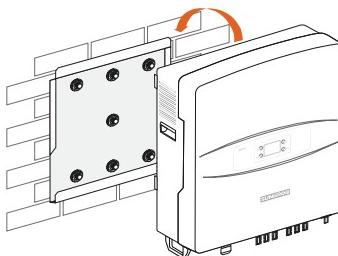

Fig. 5-5 Installing the Inverter
Step 6 Lift up the inverter above the backplate with the help of others and then slide down, making sure that the two mounting ears on the back of the inverter and counterparts of the backplate engage perfectly, as shown in Fig. 5-5.